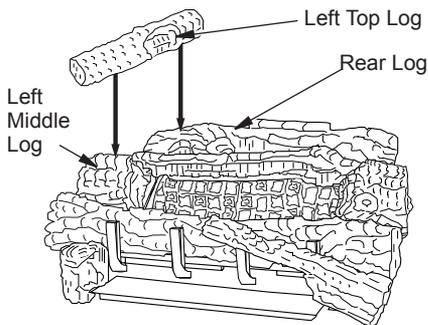

Figure 47 - Installing Left Top Log
10. Place the left top log (D-046) onto the rear log and the left middle log. Make sure to place the projection on the bottom of the left top log into the recessed areas on the rear and left middle logs (see Figure 47).